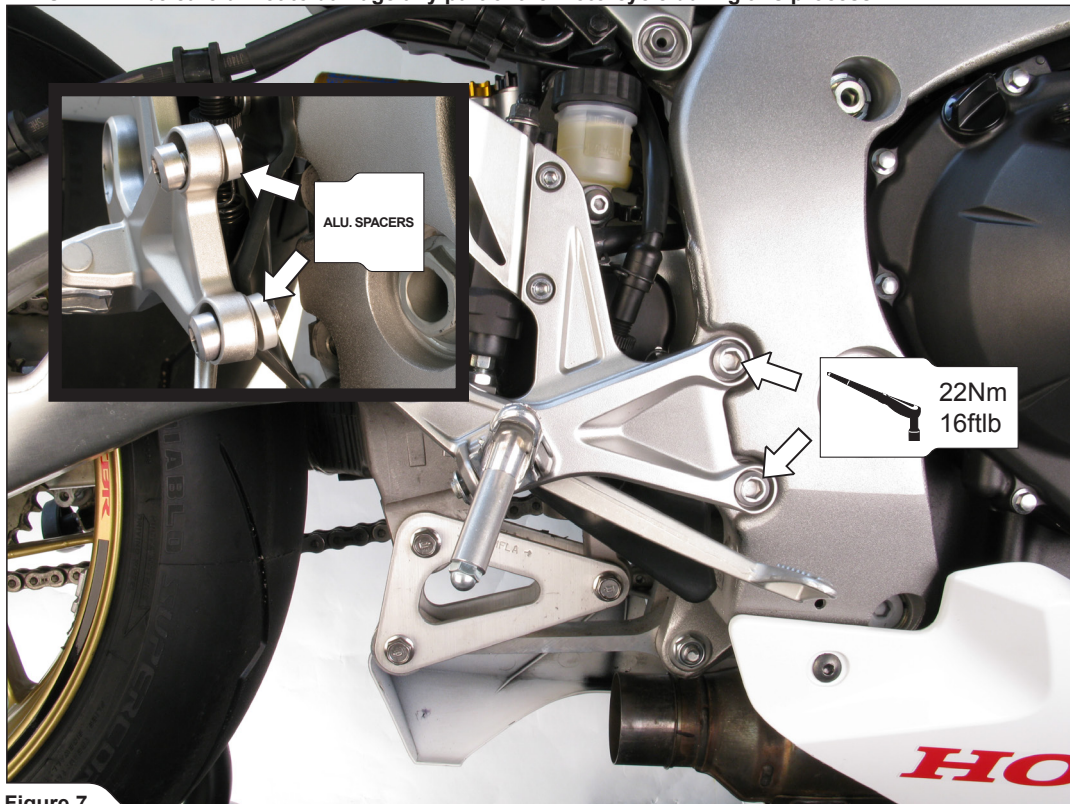

Figure 7
1. Put the 5 mm aluminium spacers from Akrapovič installation kit under the footrest and reattach the footrest with the stock bolts (Figure 7).